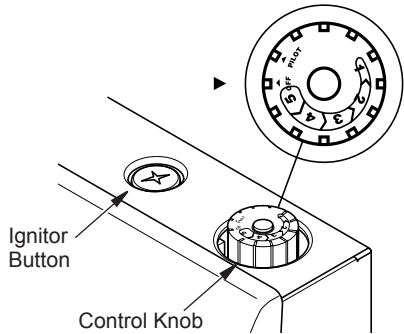

Figure 21 - Control Knob in the OFF Position
4. Wait five (5) minutes to clear out any air. Then smell for gas, including near the floor. If you smell gas, STOP! Follow "B" in the safety information above. If you do not smell gas, go to the next step.
5. Turn control knob counterclockwise  to the PILOT position. Press in control knob for five (5) seconds (see Figure 21, page 19).
*Note: The first time that the heater is operated after connecting the gas supply, the control knob should be pressed for about thirty (30) seconds. This will allow air to bleed from the gas system. If pilot does not stay lit, refer to *Troubleshooting*, pages 24 through 27. Also contact a qualified service technician or gas supplier for repairs. Until repairs are made, light pilot with match.*